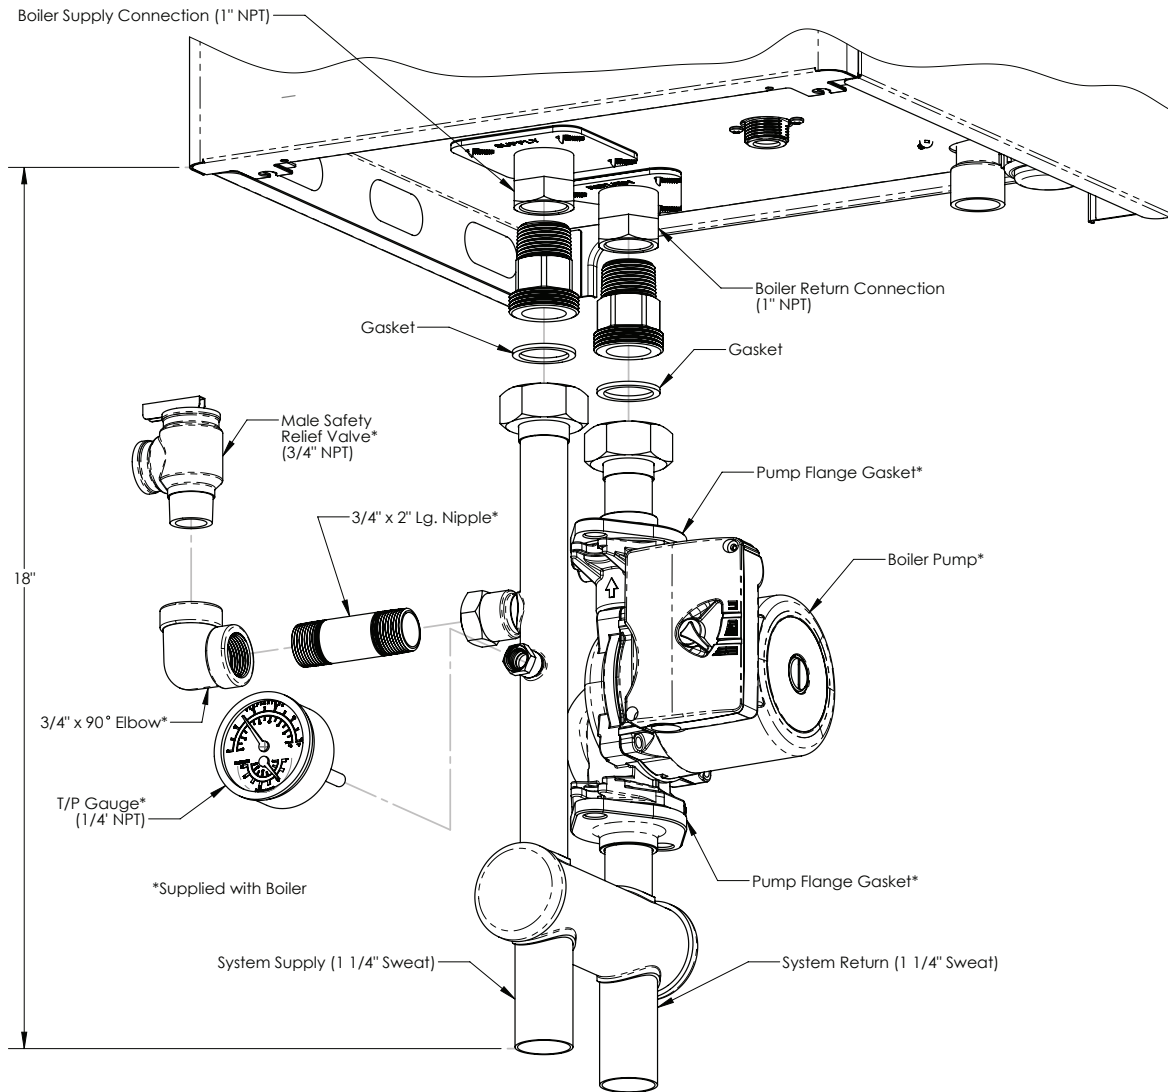

Figure 1: Primary/Secondary Manifold
1. Assemble manifold as shown in Figure 1.